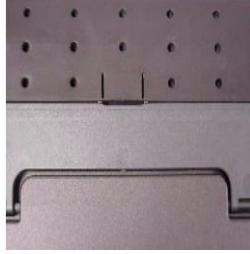

Figure 2:
4. Locate the front adjustable foot as seen in Figure 2. Cut the two small tabs on the front center mounting slot so it can push down into the mounting slot.